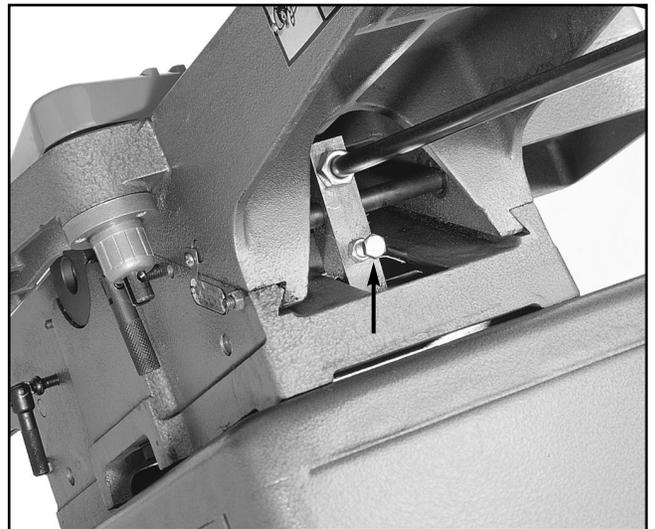

Figure 18. Location of the infeed table stop bolt and jam nut.
1. Loosen the jam nut and unscrew the table stop bolt out 3 or 4 turns. See **Figure 18**.